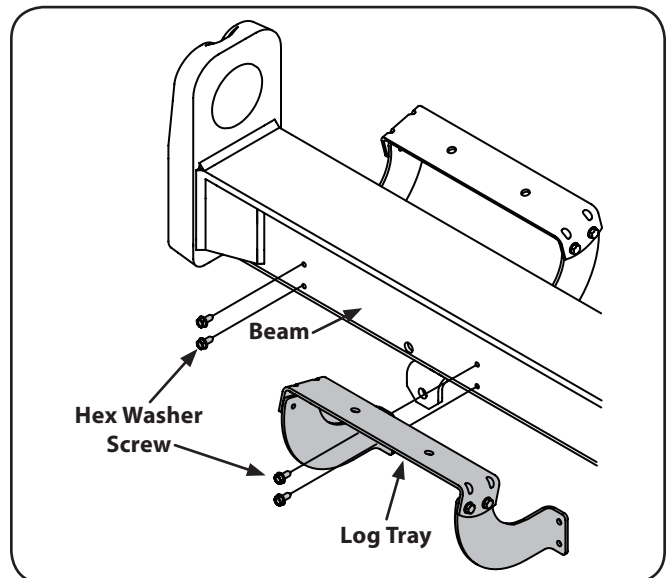

Figure 3-5
- Disconnect the log tray from the beam on the side of the control valve by removing the two hex washer screws that secure it to the beam weld brackets and the two hex washer screws in the beam. See Fig. 3-5.